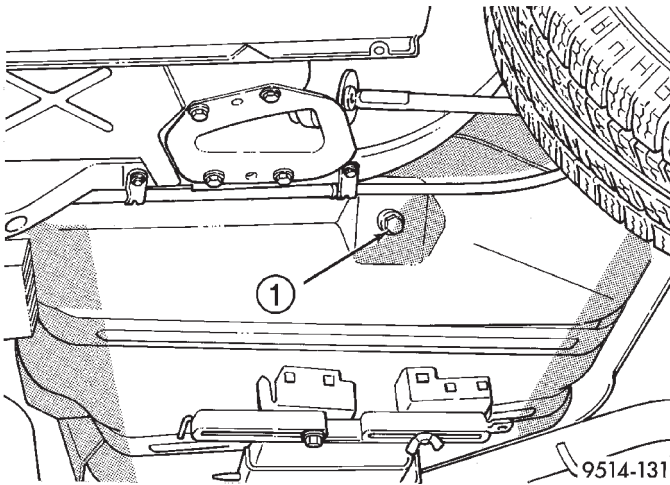

Fig. 6 Fuel Tank Drain Plug
- (4) Remove drain plug and allow fuel to drain (Fig. 6).